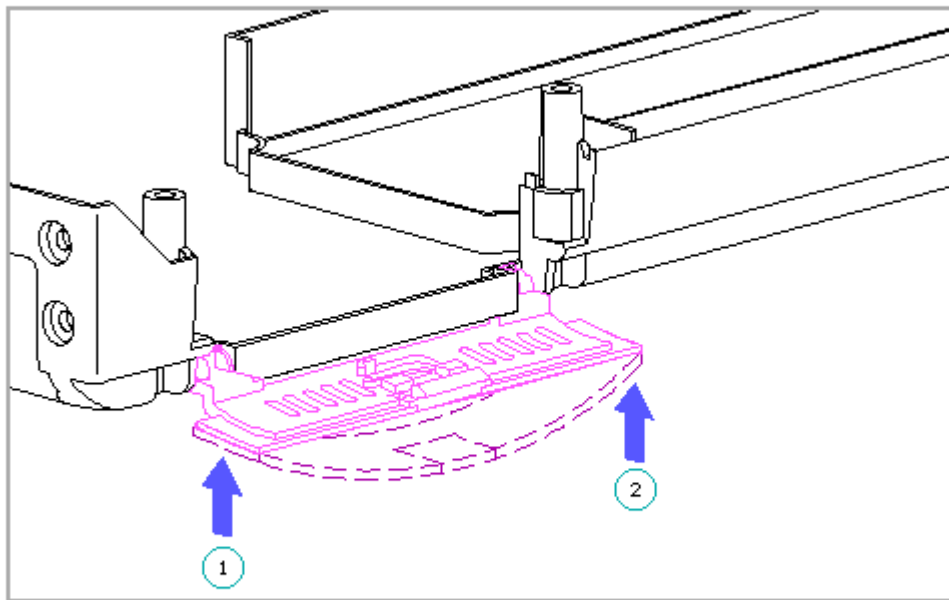

Figure 4-56. Replacing the PCMCIA Compartment Door
3. With the door held in the fully open position, install the back hinge of the door [1] onto its post on the computer base enclosure (Figure 4-56).
4. Slightly flexing the door, replace the front hinge of the door [2] onto its post on the computer base enclosure (Figure 4-56).